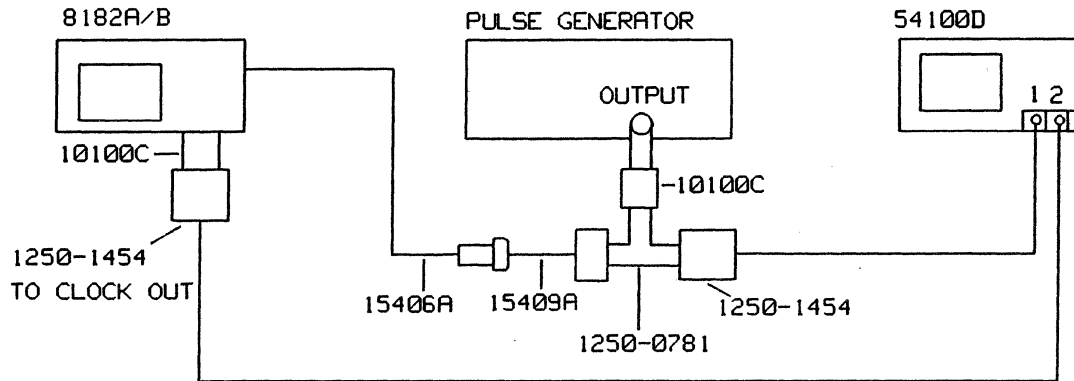

Figure 7-4. Test Setup for the Clock Delay Test
4. Connect the equipment as shown in Figure 7-4.